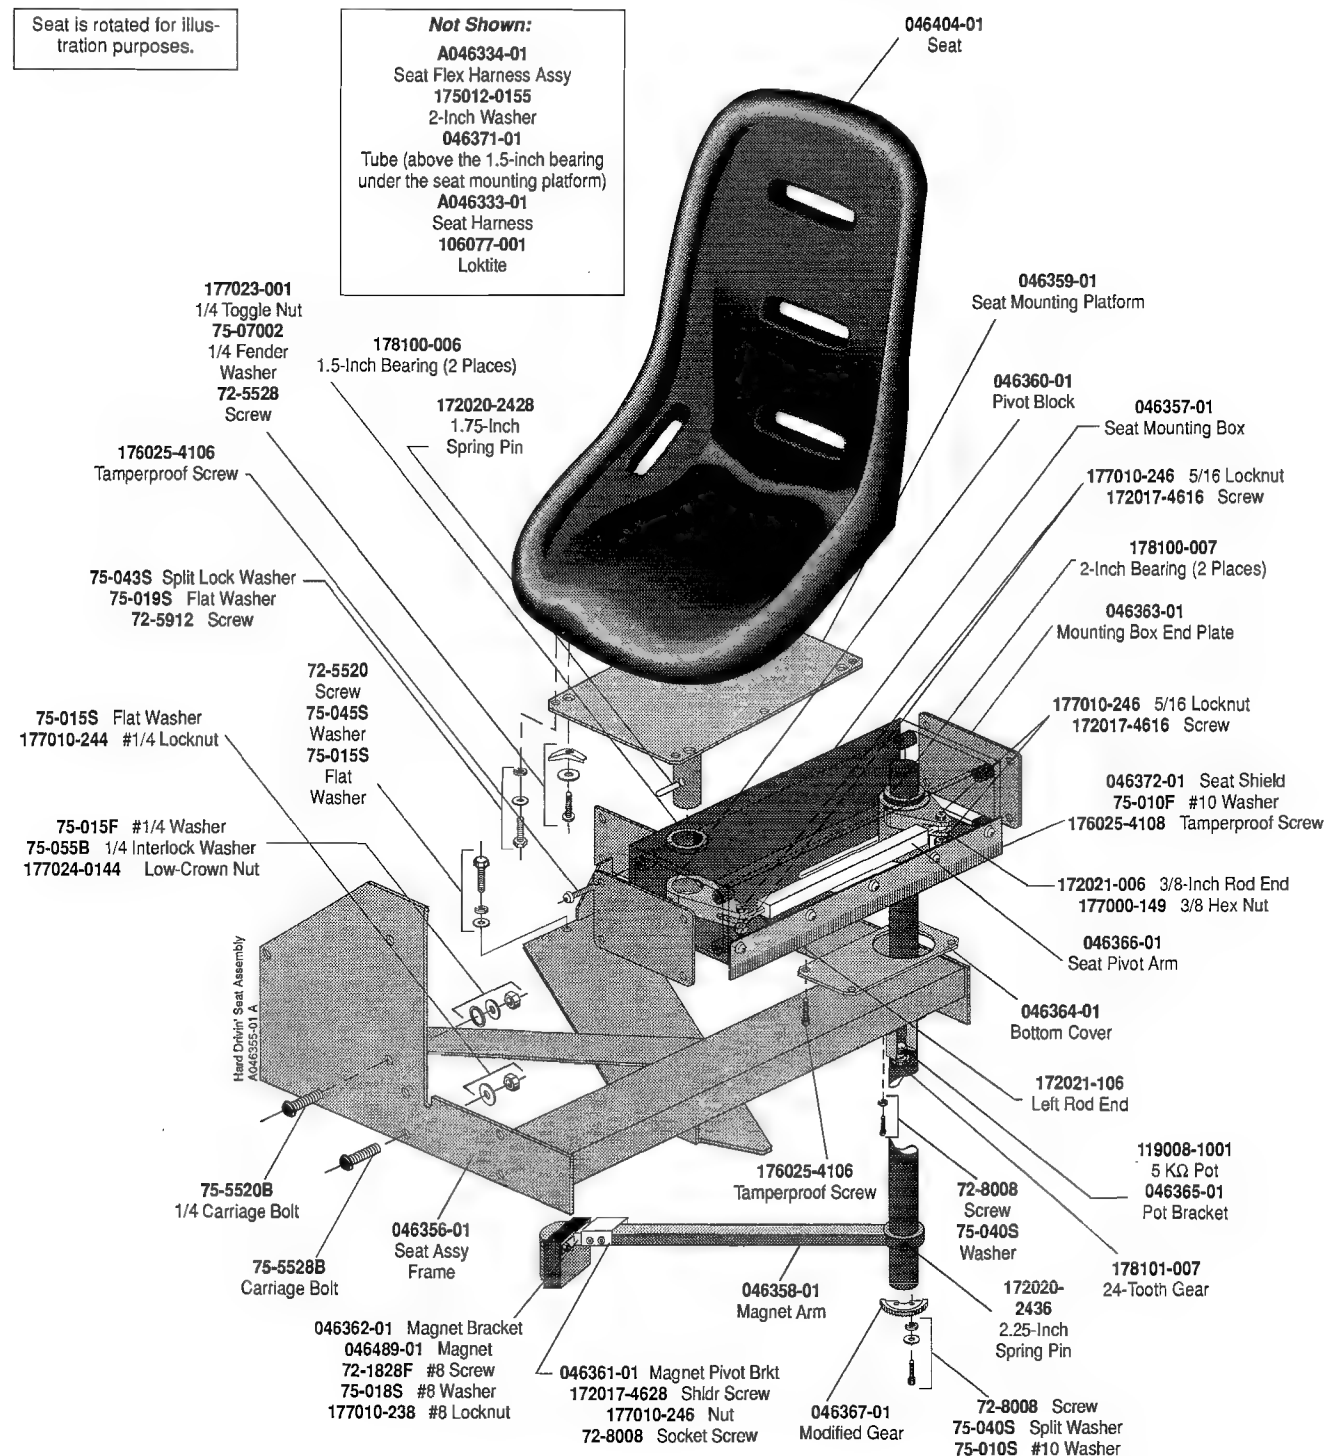

Figure 3-15 Maintaining the Seat Assembly
These are the bearings that allow the seat to turn. Replace the seat pivot bearings if the seat twists or jiggles excessively or you can pull the seat up and down. The seat assembly is shown in Figure 3-15.
These bearings are between the base of the simulator and the seat mounting arm. Replace them if the seat mounting arm is twisting or jiggling or you can pull the arm up and down. The seat assembly is shown in Figure 3-15.
1. Remove socket-head screws which hold the potentiometer bracket in the simulator and bring the potentiometer bracket and the small gear out of the simulator. See Figure 3-15.
The potentiometer is mounted next to the end of the main shaft on the seat. The potentiometer has soldered connections, so you will need a soldering gun. The seat is shown in Figure 3-15.